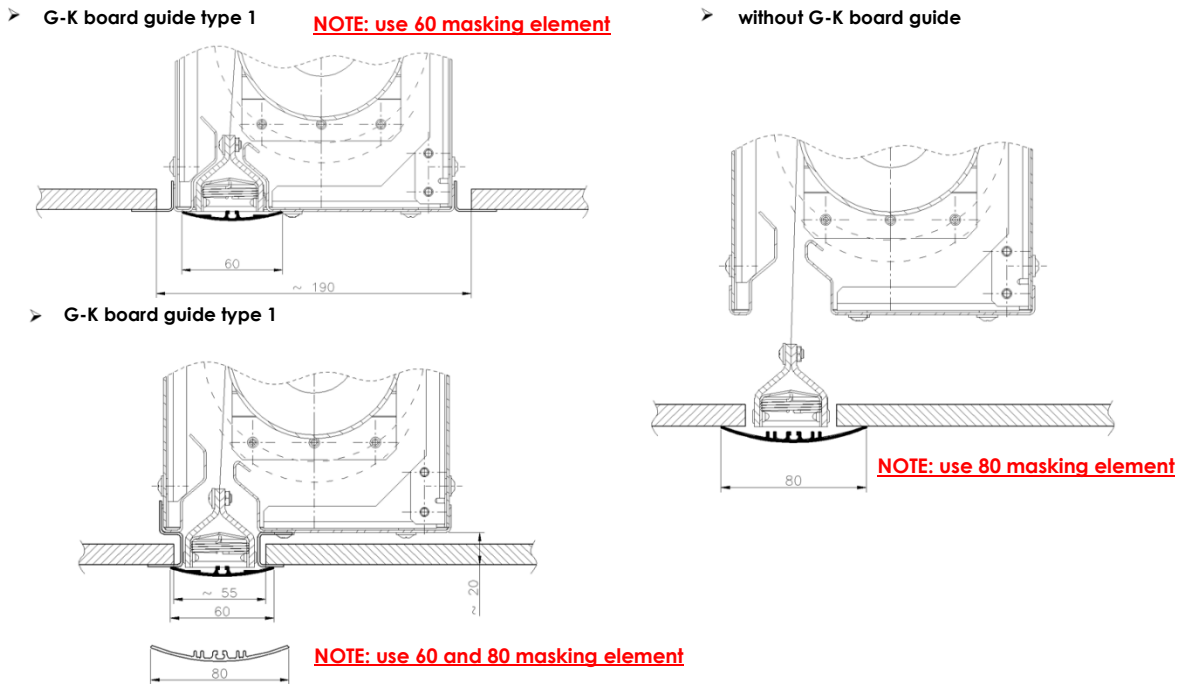

Fig. 3 Recommended position of casings relative to the ceiling. Gap width.
2. In the case of fixing curtains with masking elements to a drop ceiling, proper gaps and tolerances should be ensured (Fig. 3) matching a given curtain width.